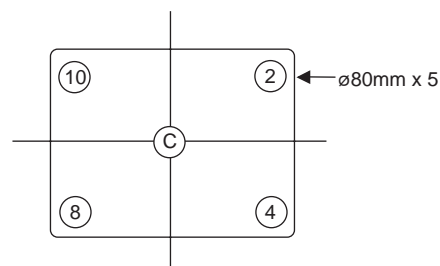

FIGURE 1-3-5
- (10) Set CRT axis direction magnetic field of the artificial magnetic field according to the artificial magnetic field setting list classified by destination. (The direction of the magnetic field should be from the CPT screen side to the neck side.)
- (11) After degaussing it from outside, check the purity in each color to R, G and B visually. Then, turn the screen to white and check the landing at the screen position shown in Fig. 1-3-5 with a microscope.
- (12) Turn over the direction of CPT axis direction magnetic field of the next artificial magnetic field and check it by the same way as item (11). The positions of miss landing criteria with a microscope should be 2, 4, 8 and 10 (Figure 1-3-5).